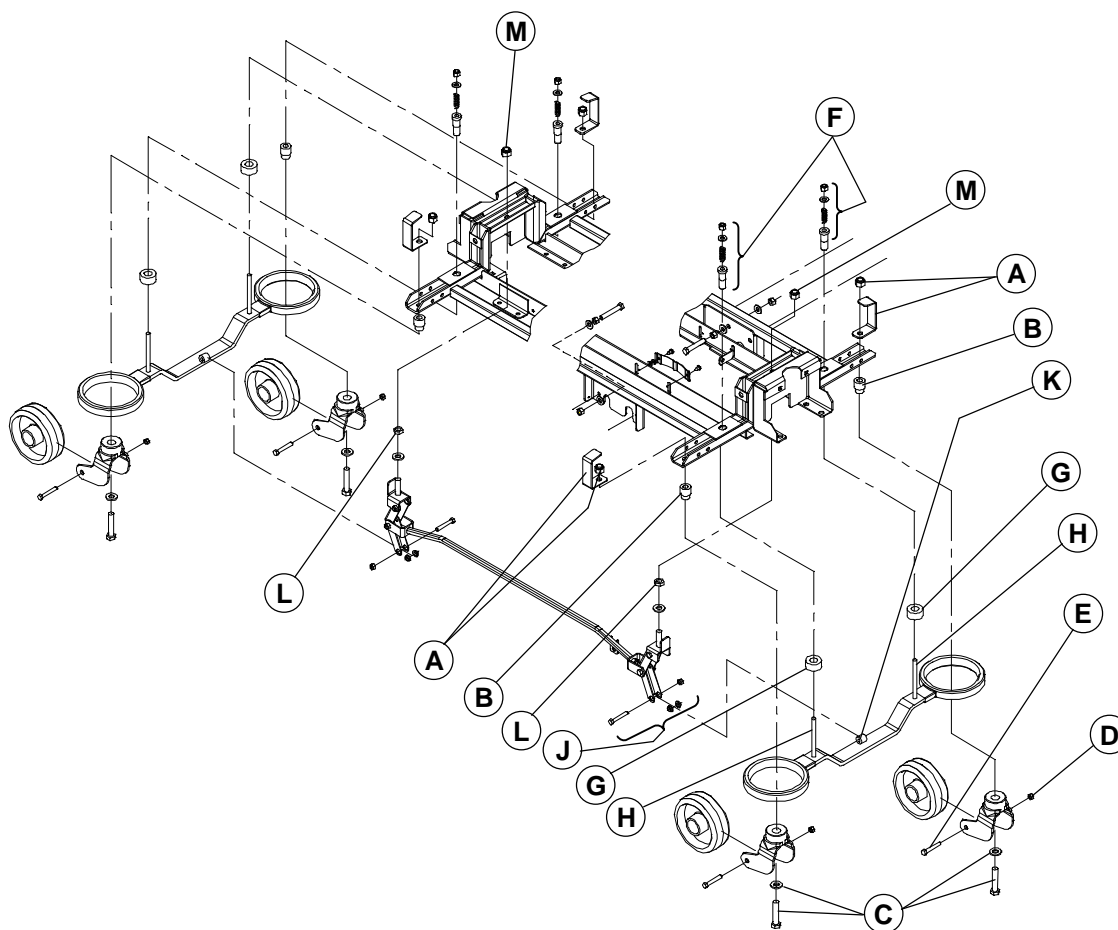

Figure 3.8
Unless otherwise stated, reference letters contained in the following procedure will refer to figure 3.8, page 24.
6. Using a 3/4" socket and ratchet and a 3/4" angled socket and ratchet, remove the locknut/base hood support (A, fig. 3.8, page 24), caster adjusting sockets (B, fig. 3.8, page 24) and washer/bolt (C, fig. 3.8, page 24), holding the caster assembly to the base frame. Remove the defective caster.
Reaching the caster assembly bottom bolt may be difficult without the adequate tool. Removing the wheel will clear access to this bolt. Use a 5/8" wrench and an 11/16" socket and ratchet to remove the nut (D, fig. 3.8, page 24) and bolt (E, fig. 3.8, page 24) holding the wheel to the caster horn and remove the wheel.